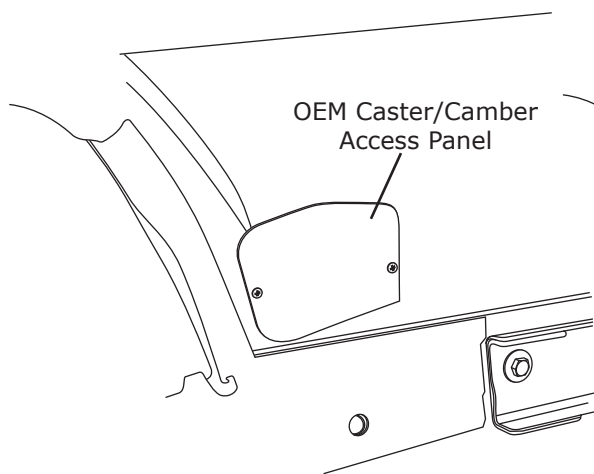

Figure 12
1. Remove OEM caster/camber access panel (discard) (See Figure 12, below).